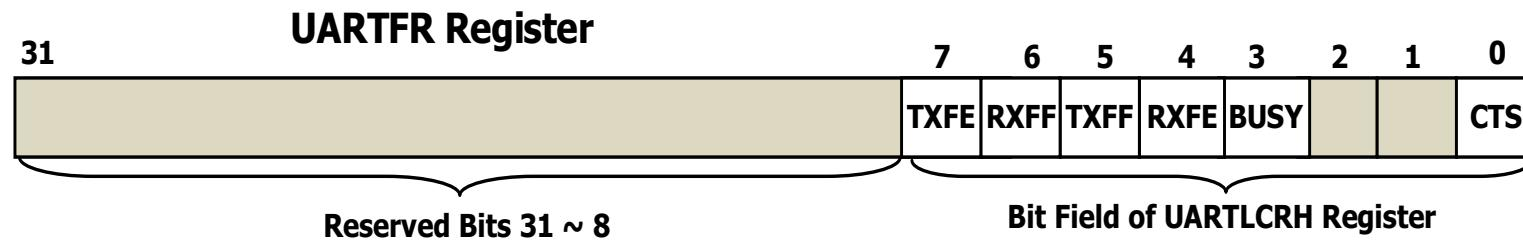

Figure 8.69 Bits configurations for UARTFR register.
- The bit configuration for the **UARTFR** register is shown in Figure 8.69. The bit field and bit function for this register is shown in Table 8.33 (next slide).